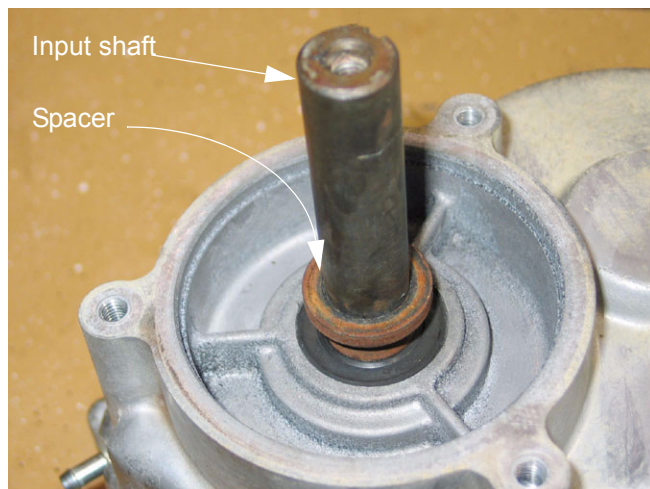

Figure 9.26
- 9.26. Prepare to separate the case: Clean any rust or burrs from the input shaft with emery cloth, and remove the spacer if it was not taken off previously. See Figure 9.26.